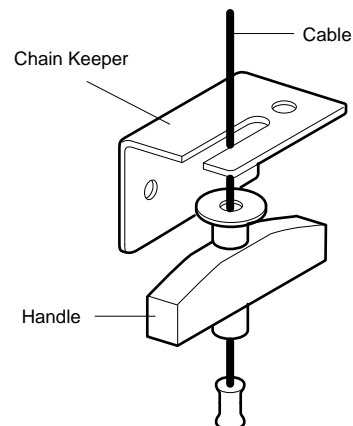

FIGURE 6
9. Uncoil disconnect cable and fasten chain keeper to the wall of building as shown in Figure 6. Adjust disconnect cable handpull and fender washer so chain keeper holds cable in position when cable is pulled as far as its travel permits.